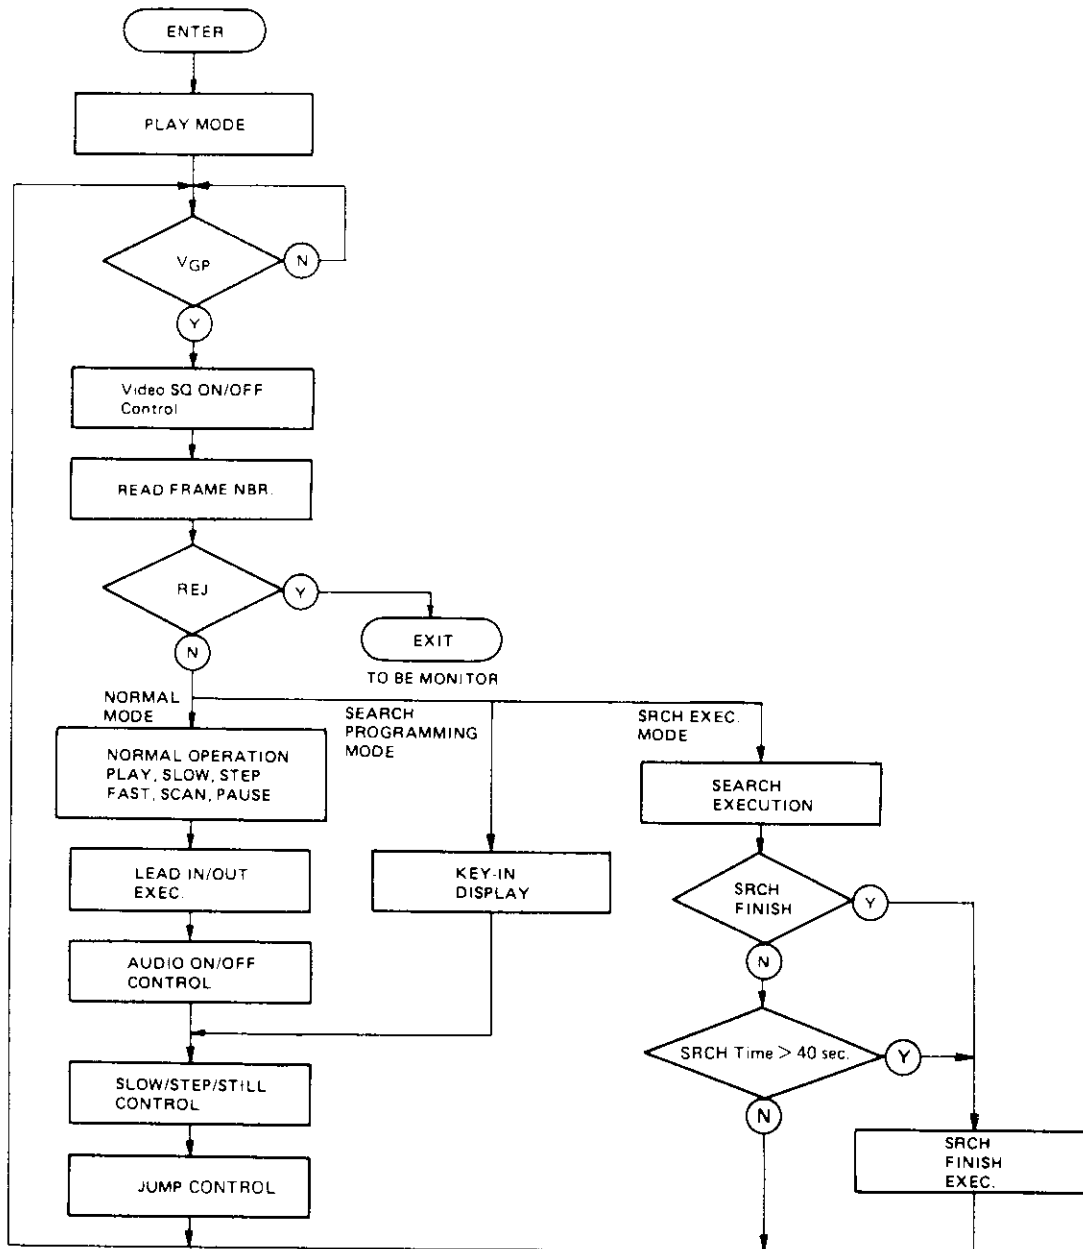

Fig. 28 Flow chart of P-B monitor
#### (2) Playback monitor (Fig. 28)